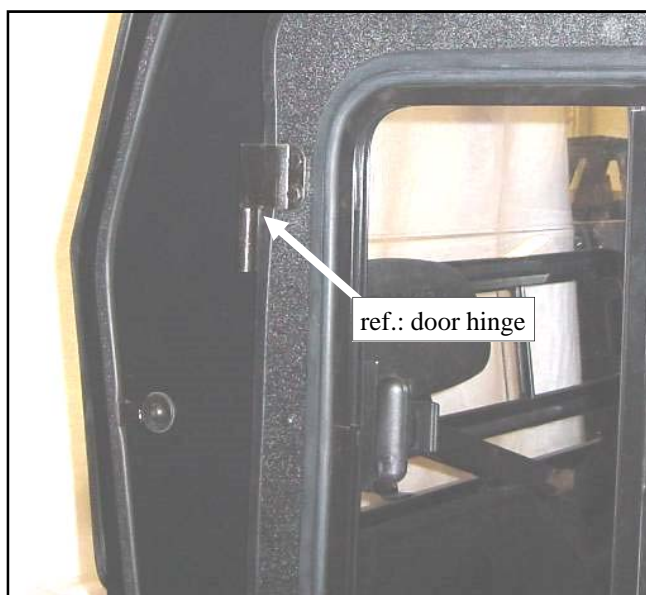

Fig. 6.12 (view from passenger's side)
6.12 With assistance and per fig. 6.12, install the doors. Apply grease to the factory installed pin hinges and install the doors by lining up the pin hinges on the door with the hinge sleeves on the hinge plate assembly. Work the doors back and forth until they are completely seated on the pin hinges.